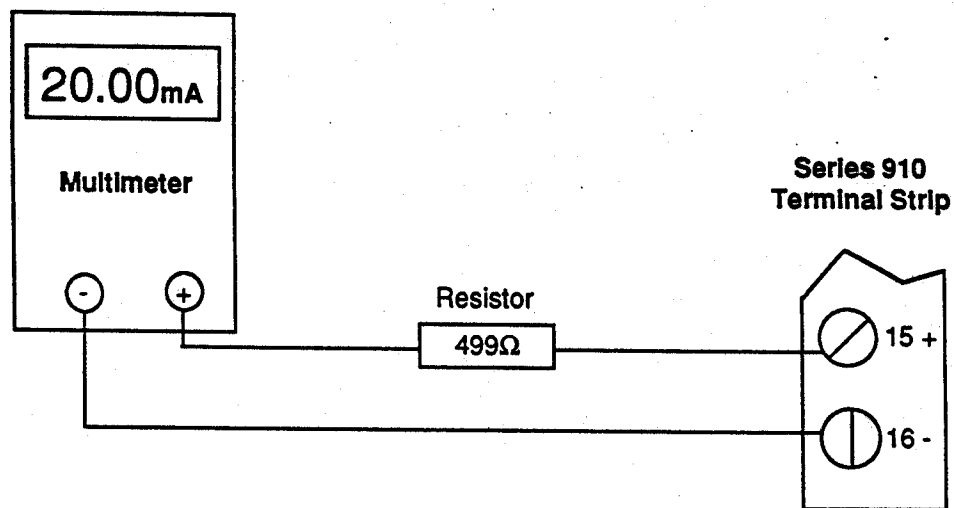

Figure 30 -
2. Connect the multimeter in series with the 499 Ω resistor across Terminals #15 and #16 on the back of the 910. See Figure 30.